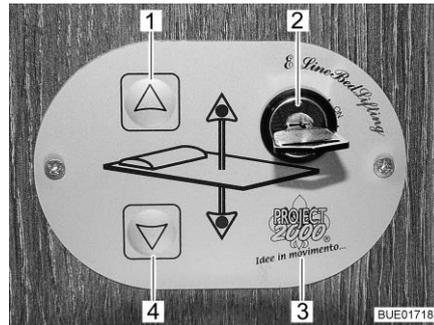

Fig. 65 Control unit
The pull-down bed is raised or lowered using the buttons (Fig. 65,1 and 4) on the control unit (Fig. 65,3). The control unit is protected against unauthorized use with the key switch (Fig. 65,2).
- Turn the key in the key switch (Fig. 65,2) by 90° in a clockwise direction to position "On". The control unit (Fig. 65,3) is activated.
- Press the arrow key (Fig. 65,4) and keep it pressed until the pull-down bed has moved down into the desired position.
- Press the arrow key (Fig. 65,1) and keep it pressed until the pull-down bed has moved down into the final upper position.